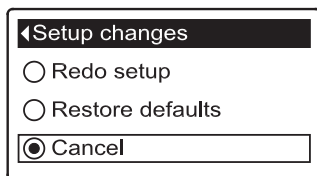

FIG. 23
1. From any of the rolling status screens, press the SELECT (O) button to display the **Main menu**.
3. Press the SELECT (O) button to display the Advanced settings menu.
5. Press the SELECT (O) button to display the Troubleshooting menu.
7. Press the SELECT (O) button to display the Setup changes menu (See Figure 23).
8. Press the RIGHT (►) button. The flashing padlock icon will disappear, as shown in Figure 23.
9. Press the SELECT (O) button.